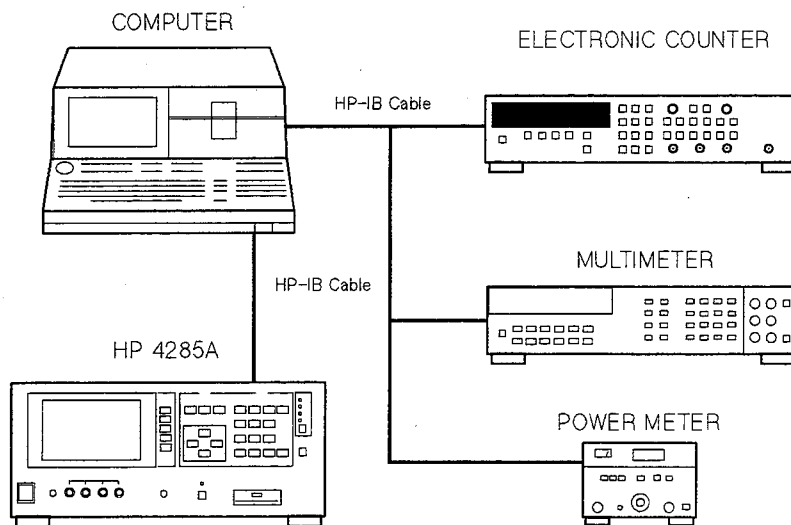

Figure 2-1. Performance Test Program Setup
1. Connect the HP 4285A and a computer using an HP-IB cable. If you are going to perform an automatic test, connect the multimeter, power meter, and the electronic counter, recommended in Table 1-3, to the computer using HP-IB cables. The computer's HP-IB interface select code must be set to 7. Figure 2-1 shows the setup.